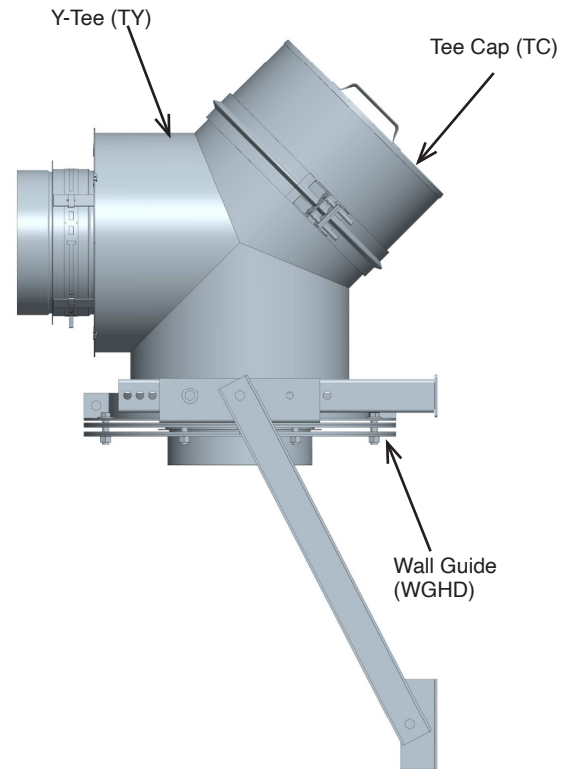

Figure 95 - Installation of a Y-Tee (TY)
1. The Tee Y (TY) is very useful where the grease duct must be accessed for clean-out and inspection purposes. See Figure 95.